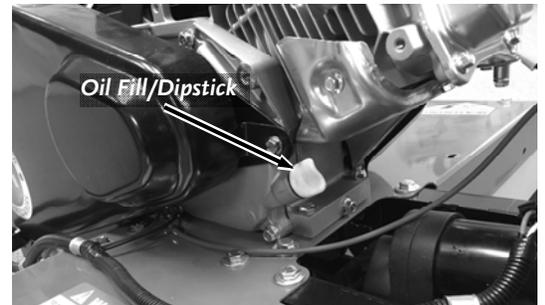

Figure 21
1. Remove the Oil Fill Cap/Dipstick and vacuum the oil from the Engine through the Oil Fill using a Vacuum Pump Oil Drainer (**Figure 21**).